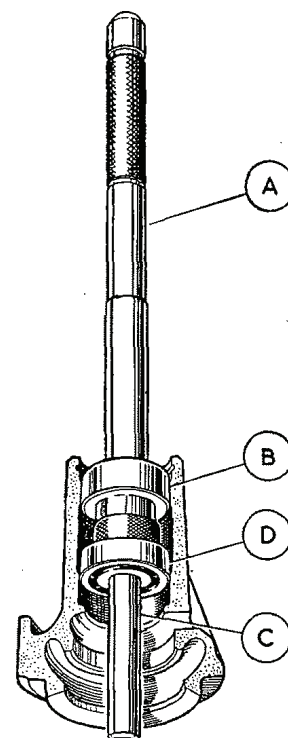

Fig. C.7
Assemble the driver, dummy front bearing, and pilot (C). Position the rear bearing, the felt ring inner retainer, the felt ring and outer retainer, in that order, on the pilot and press them into the pump body (Fig. C.7).